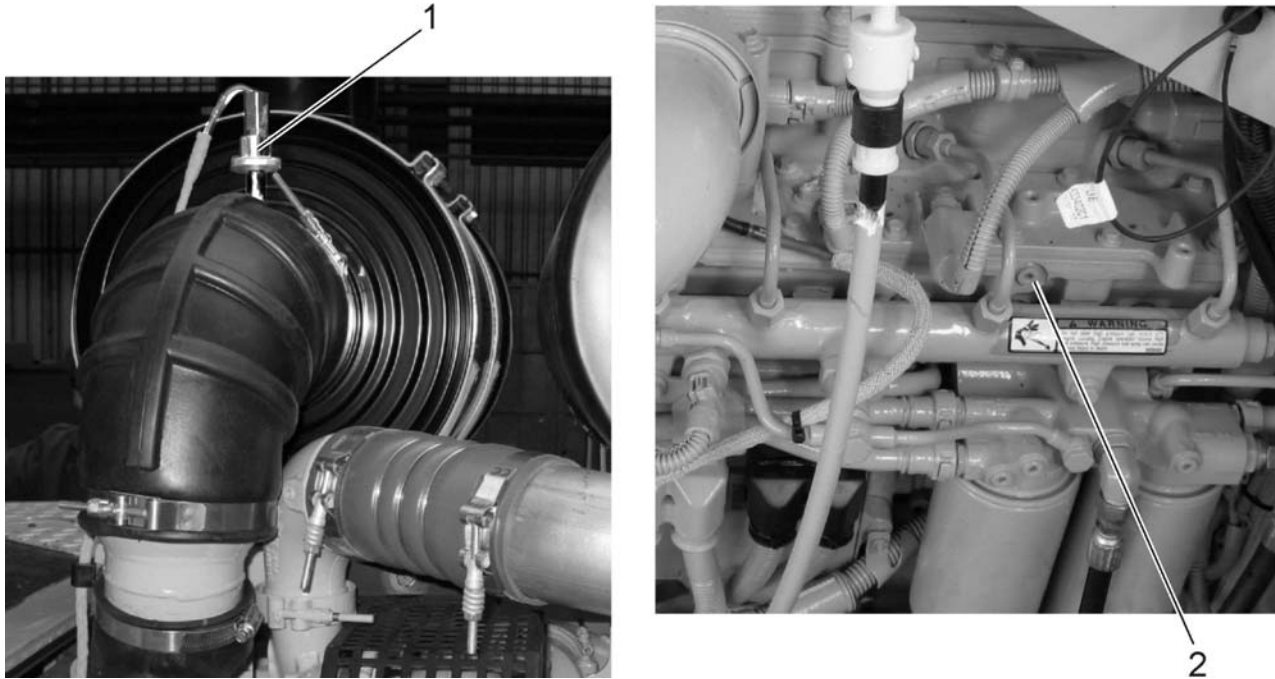

Fig. 12.1. Air Induction System Service Points
3. Remove the air cleaner warning light switch (1, Fig. 12.1). Tee in a 0 to 100 [kPa] pressure gauge.
4. Remove the plug (2) from the air intake manifold. Connect a manually regulated compressed air supply.